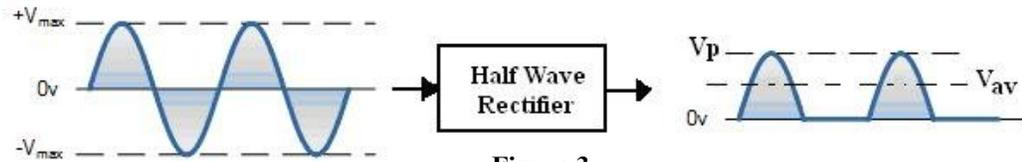

Figure 3
a) Half Wave Rectifier (HWR): one of the input signal half cycle makes the diode forward biased and there exist a voltage at the output, while during the other half cycle the diode will be reverse biased and the output is zero as shown in Figure 3. The maximum output voltage of the **rectified unfiltered** signal (V_P (HWR)) can be found by: